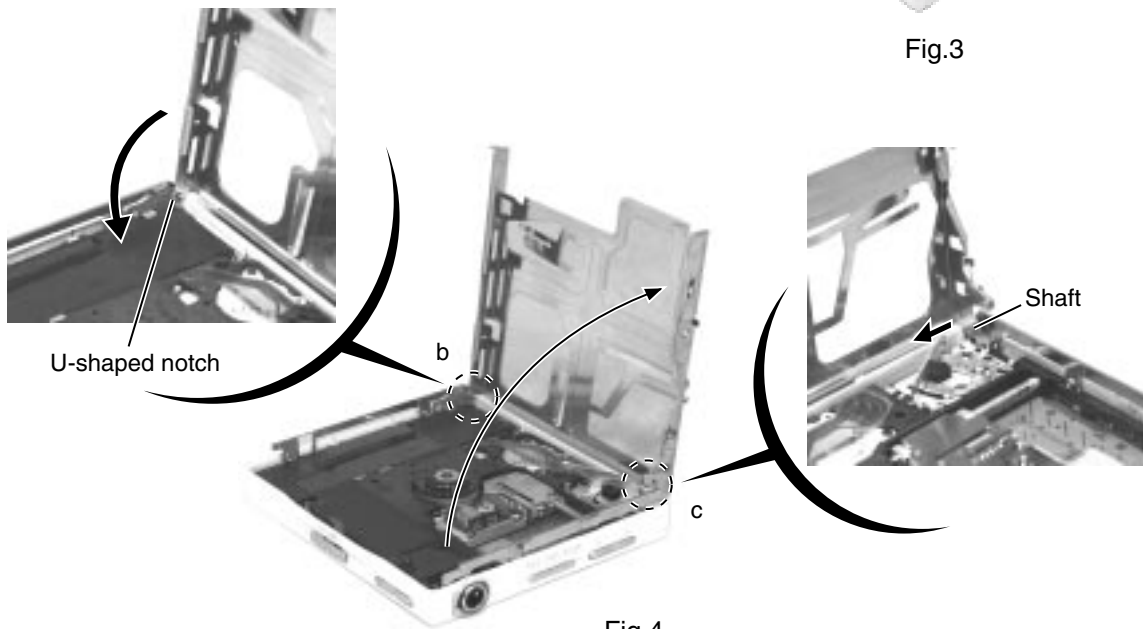

Fig.4
2. Pull the side arm (L) marked a outward, then remove. Open the holder ass'y as shown in Fig.4.